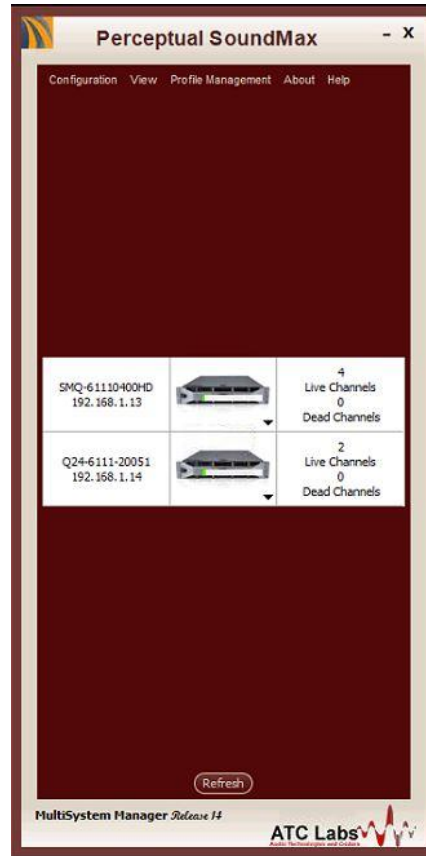

Figure 2.5.1: SoundMax™ Manager UI Screen
- After the SoundMax™ Manager installation, the user interface screen (UI) shown in Figure 2.5.1 below will appear.